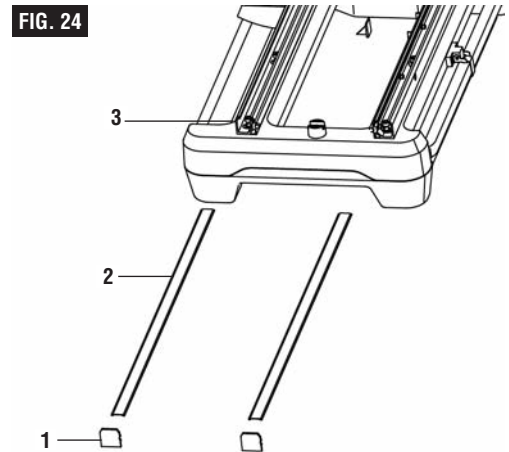

FIG. 24
1. Turn off the saw. Remove the two end covers (1) at the ends of the rails. Remove the two top covers (2) of the rails by sliding them out from the top of the rails (Fig. 24).